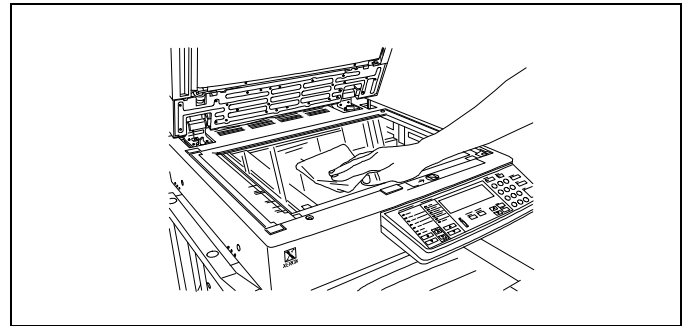

Figure 48
1. See Figure 48. Clean the document glass with a clean lint-free cloth dampened with a small amount of Xerox Lens and Mirror Cleaner or a non-abrasive glass cleaner such as Windex or Glass Plus.